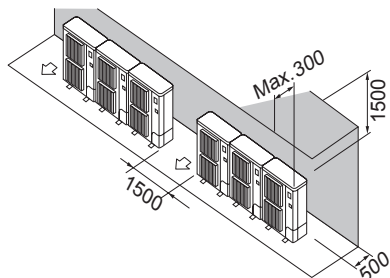

Fig. 3-13
- Obstacles at rear and above only (Fig. 3-13)